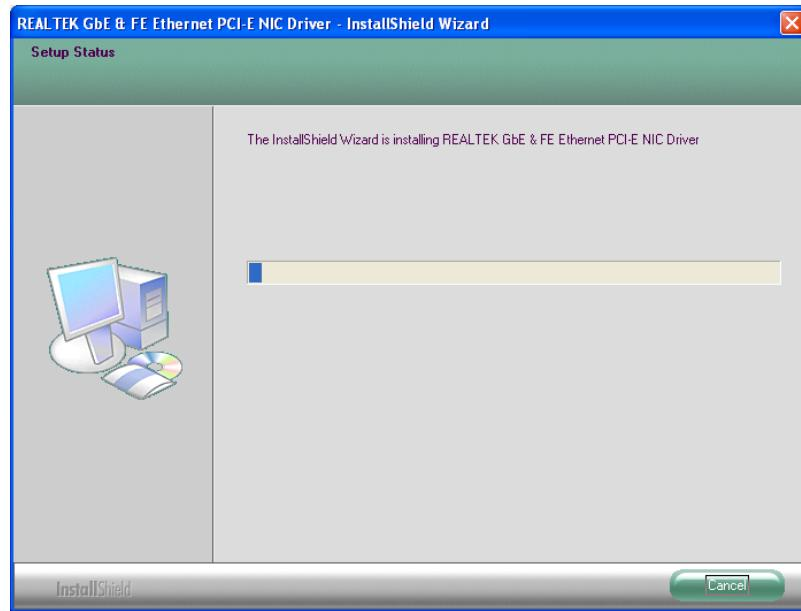

Figure 6-19: LAN Driver Installation
Step 8: The installation progress can be monitored in the progress bar shown in **Figure 6-19.**